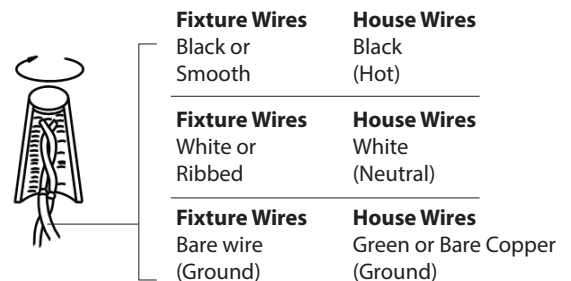

Fig.3 Sealing
7. To prevent moisture from entering the outlet box and causing a short, use clear caulking (i.e. indoor/outdoor silicone sealant) to outline the outside of fixture back plate where it meets the wall. Leave a space at the bottom to allow moisture to escape (Fig.3).